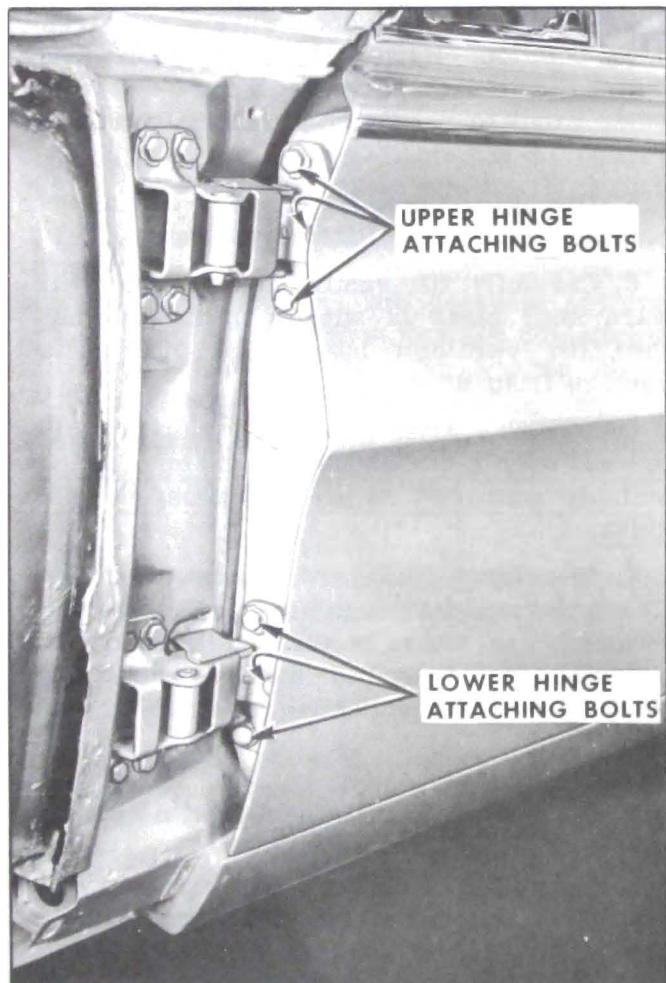

Figure 13-38—Front Door Hinge Attachment
3. With aid of helper to properly support door, remove bolts securing upper and lower hinges to door and remove door assembly from hinges. See Figure 13-38.
2. Loosen hinge attaching bolts. See Figure 13-38. Shift door to desired position, then tighten hinge attaching bolts.